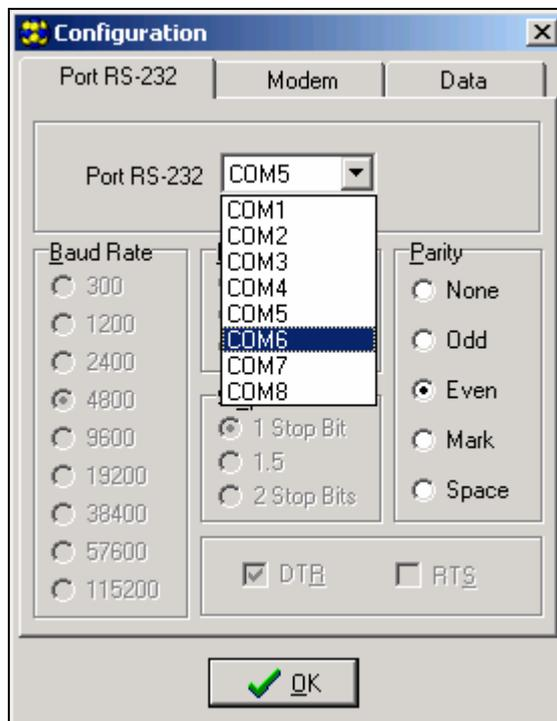

Fig. 12. "Configuration" window.
4. Indicate the computer port to which the module is connected see: Fig. 12).